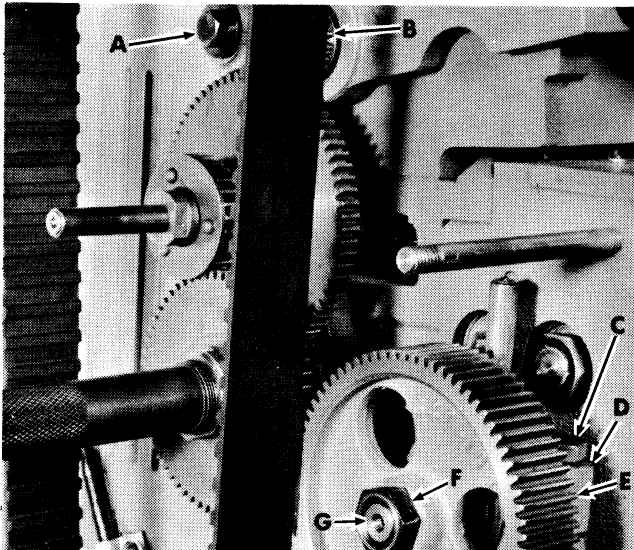

Figure 1
2. Remove jam nut (F, Fig. 1) and pull drive gear (E) off shaft (G).
3. Loosen screw (C) and remove hex cap screw (A).
4. Pull quadrant assembly (D) off lathe.
5. Loosen set screw and remove collar and gear (B).